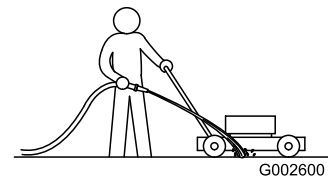

Figure 39
1. With the engine running on a flat paved surface, spray a stream of water in front of the **right** rear wheel (Figure 39).